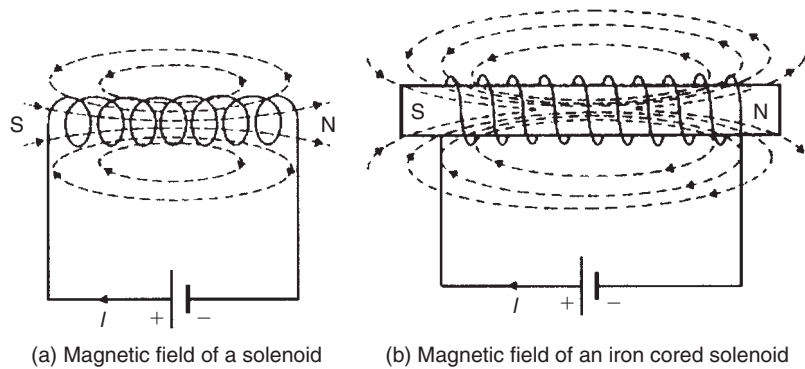

Figure 8.4
A magnetic field set up by a long coil, or **solenoid**, is shown in Fig. 8.4(a) and is seen to be similar to that of a bar magnet. If the solenoid is wound on an iron bar, as shown in Fig. 8.4(b), an even stronger magnetic field is produced, the iron becoming magnetised and behaving like a permanent magnet. The direction of the magnetic field produced by the current I in the solenoid may be found by either of two methods, i.e. the screw rule or the grip rule.
- (a) **The screw rule** states that if a normal right-hand thread screw is placed along the axis of the solenoid and is screwed in the direction of the current it moves in the direction of the magnetic field **inside** the solenoid. The direction of the magnetic field **inside** the solenoid is from south to north. Thus in Figs 8.4(a) and (b) the north pole is to the right.